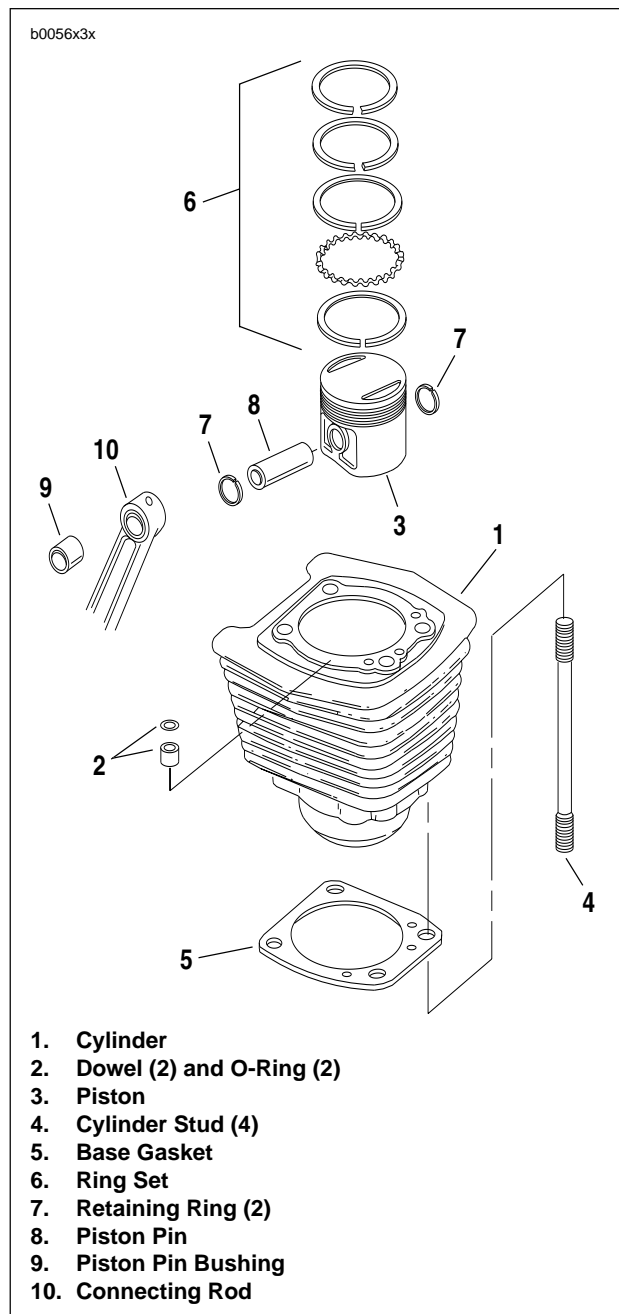

Figure 3-31. Cylinder and Piston
4. See Figure 3-31. Turn engine over until piston (3) of cylinder being removed is at bottom of its stroke.
5. Carefully raise cylinder (1) just enough to permit placing clean towel under piston to prevent any foreign matter from falling into crankcase.
- See Figure 3-31. Spread piston rings (6) outward until they clear grooves in piston (3) and lift off.